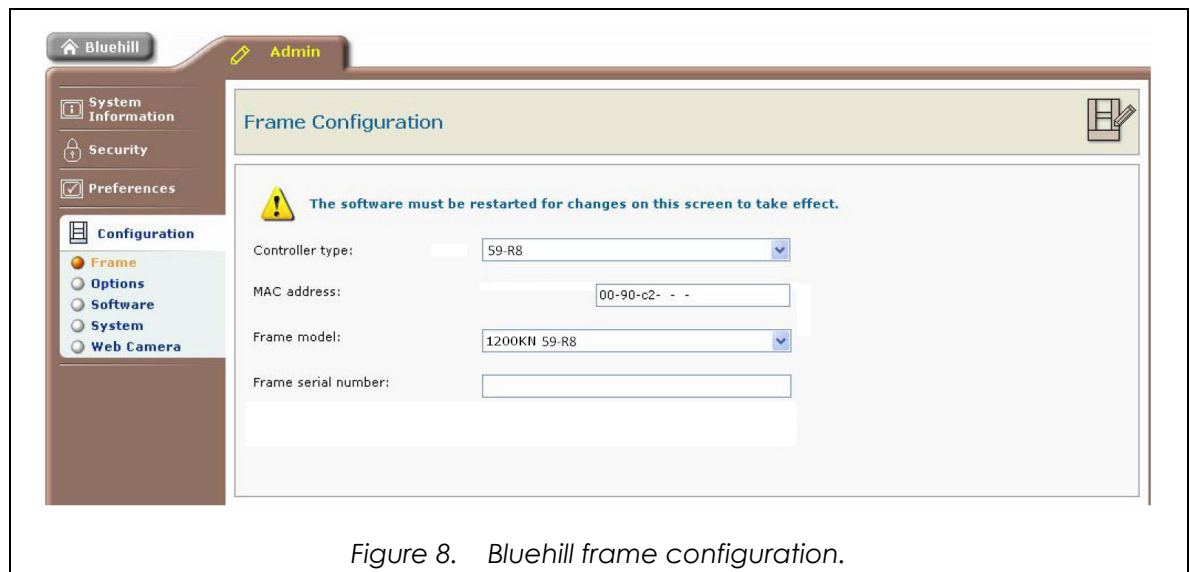

Figure 8. Bluehill frame configuration.
- iv. Select **Frame** in the navigation bar (see Figure 8).